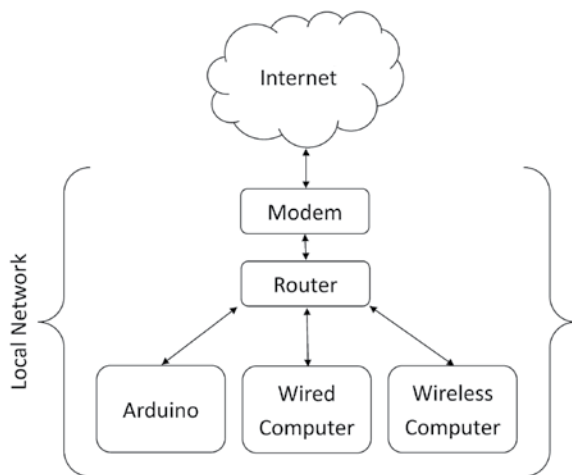

Figure 17-1: A simplified view of the web and your local network
Explaining all the workings of the web is a bit ambitious for one chapter in a book, so for this chapter, you can essentially think of your Arduino's relation to the internet using the diagram shown in Figure 17-1.
An Internet Protocol (IP) address is a unique address that identifies each device that connects to the internet. In the case of your home network, there are actually two kinds of IP addresses that you need to worry about: the local IP address and the global IP address. If your home or office has a router (like the one in Figure 17-1), everything within your local network has a local IP address that is visible only to other devices